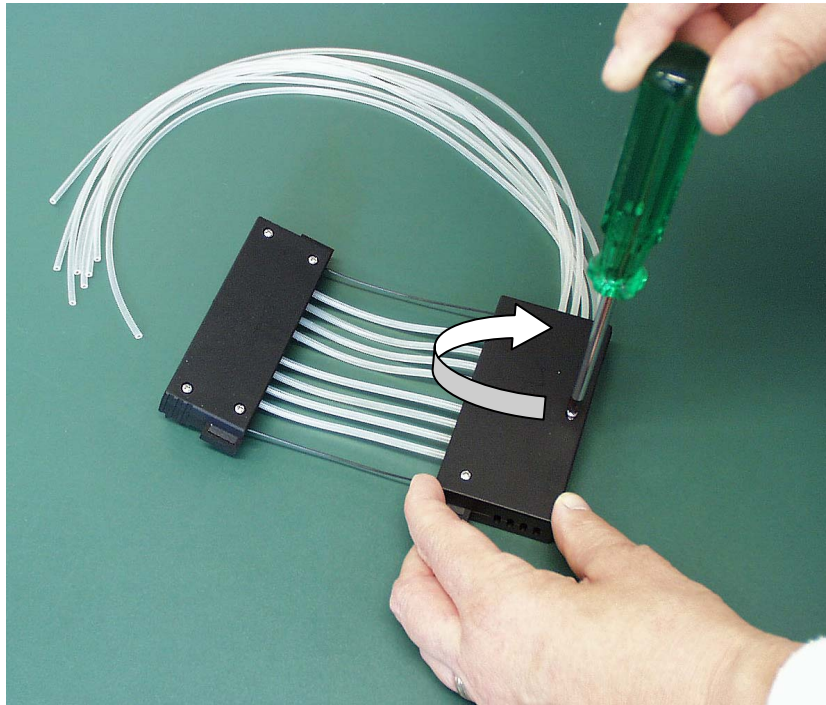

Fig. 7.29 Fastening the cover retaining screws
14. Fasten the three cover retaining screws of the upper part of the dispensing cassette, leaving the front screw slightly open (Fig. 7.29).